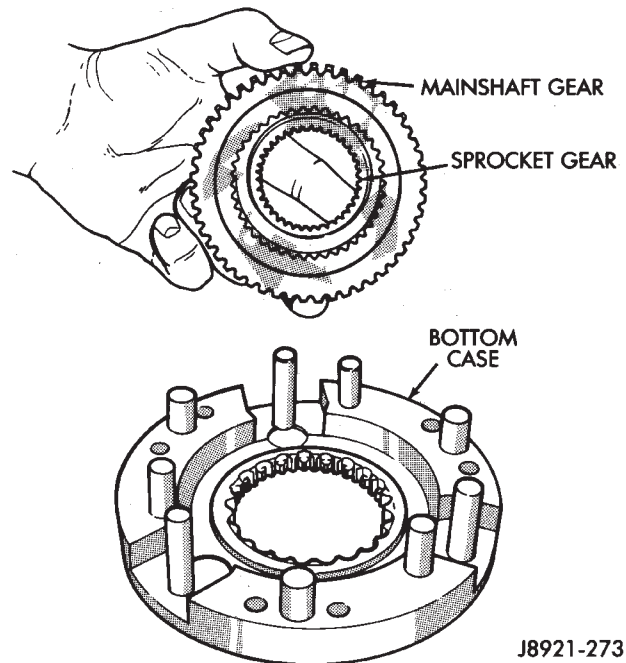

Fig. 46 Mainshaft And Sprocket Gear Removal
- (6) Remove mainshaft and sprocket gears from bottom case (Fig. 46). Note gear position for reference before separating them.